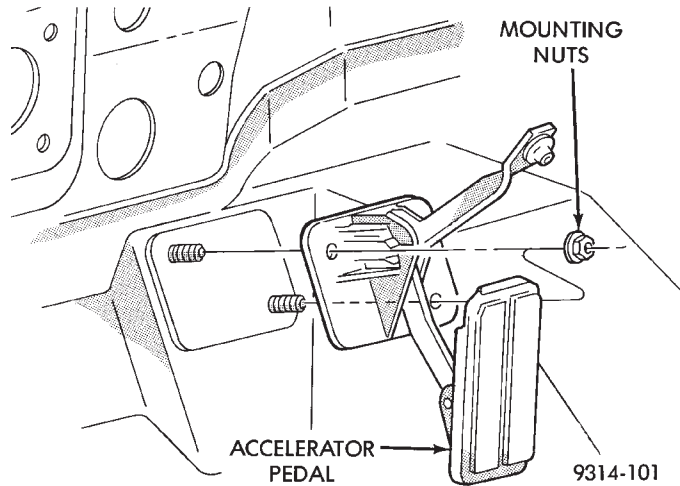

Fig. 31 Accelerator Pedal Removal/Installation
(3) Working from the passenger compartment, remove nuts from accelerator pedal base (Fig. 31). Remove pedal and base from vehicle.